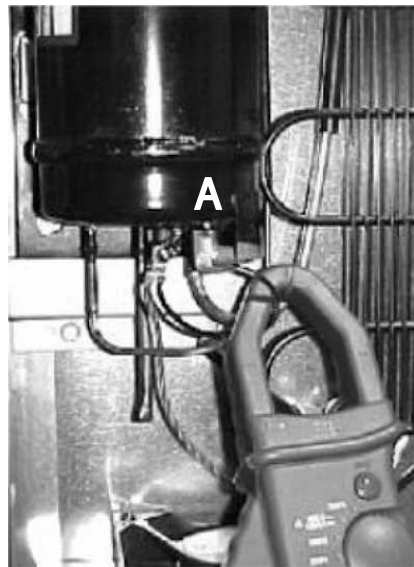

Figure 12. Measuring the Amp Draw
5. With the refrigerator power off, and the lead removed from point "A", take an Amp reading (1.6 - 3.3 Amps) at the black wire with the rubber boot. Refer to Figure 12. If amperage is not within range, refer to Procedure D.